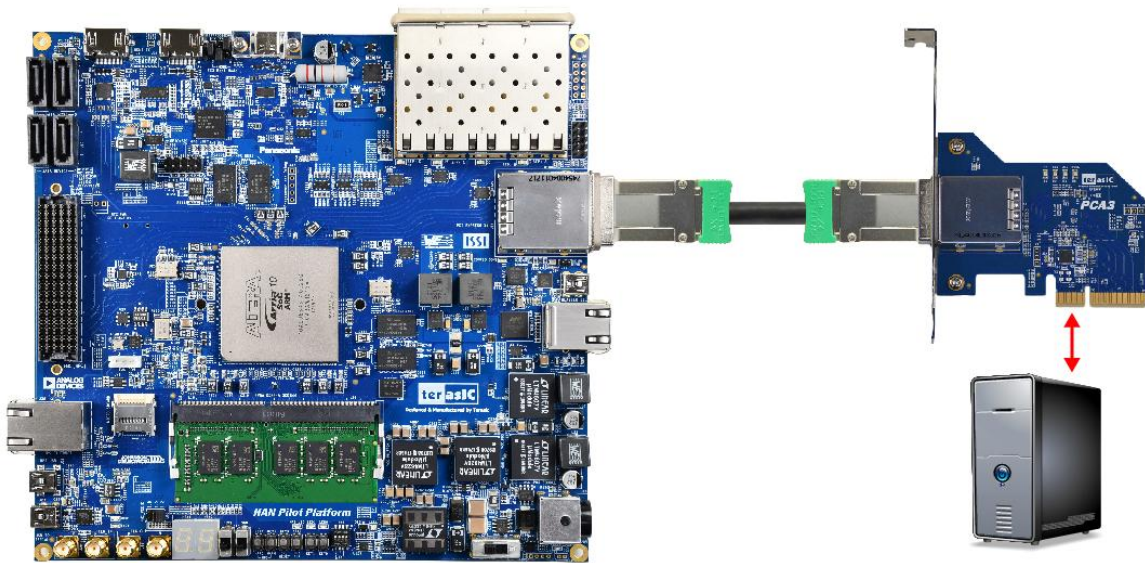

Figure 6-3 FPGA board connect to PC
3. Plug the PCIe adapter card into the PCIe slot on the PC motherboard. Use the PCIe cable to connect to the HAN Pilot Platform PCIe connector and the PCIe adapter card (See **Figure 6-3**)